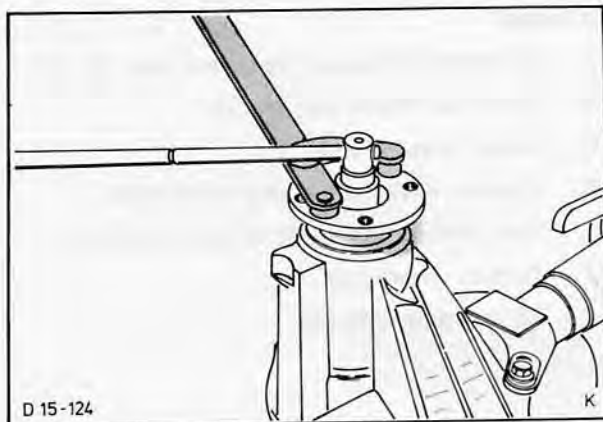
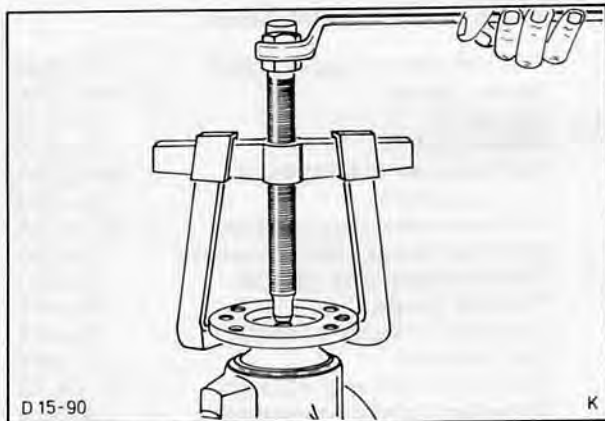

Fig. 100. Hold drive pinion flange and unscrew nut
Fig. 101. Remove drive pinion flange with standard remover
4. Remove drive pinion (1 nut). Hold flange with Special Tool No. 15-030, Fig. 100, unscrew nut and tap out drive pinion downwards with a soft faced hammer. Detach flange, Fig. 101.